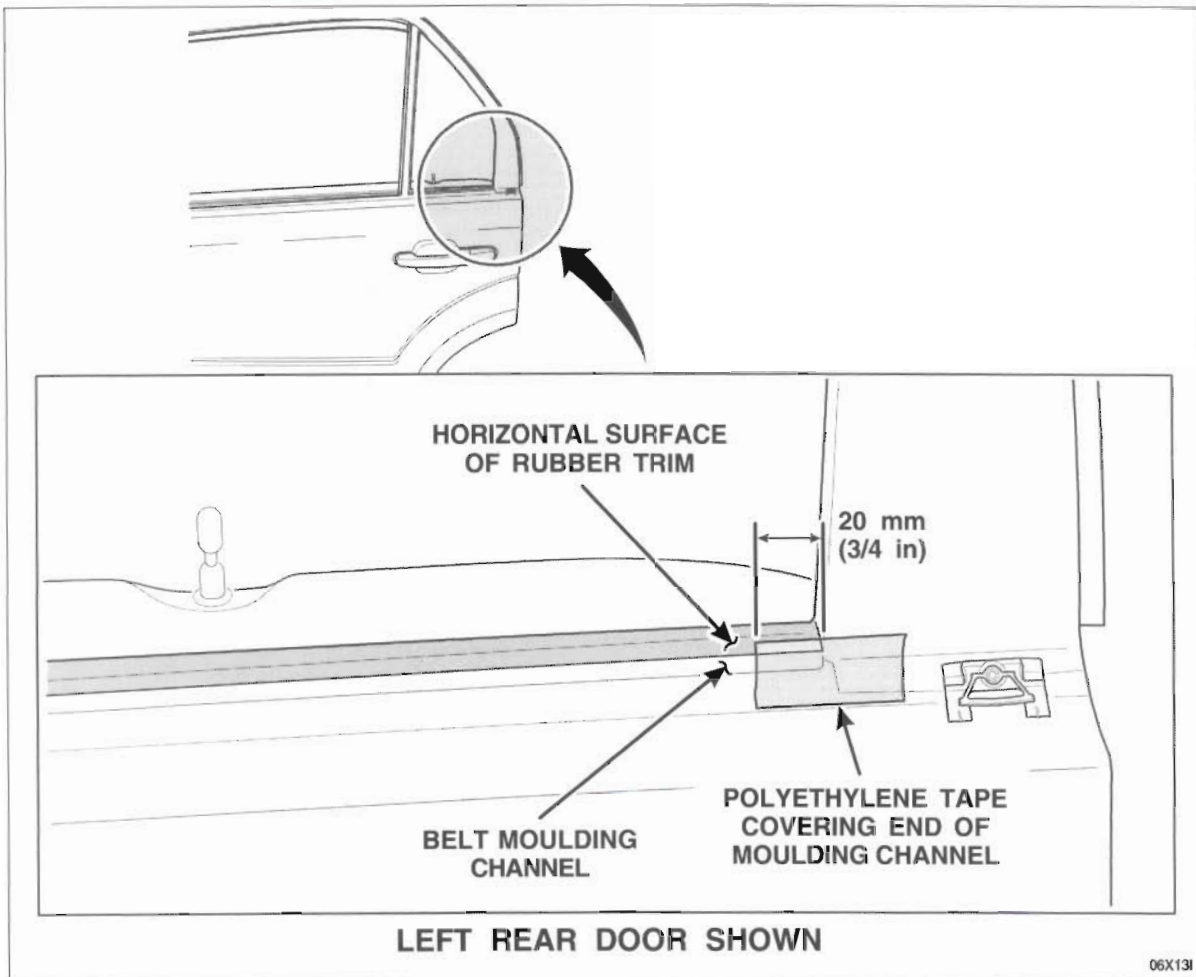

FIGURE 9
5. Peel the backing off a piece of supplied polyethylene tape and apply it as follows: See Figure 9.